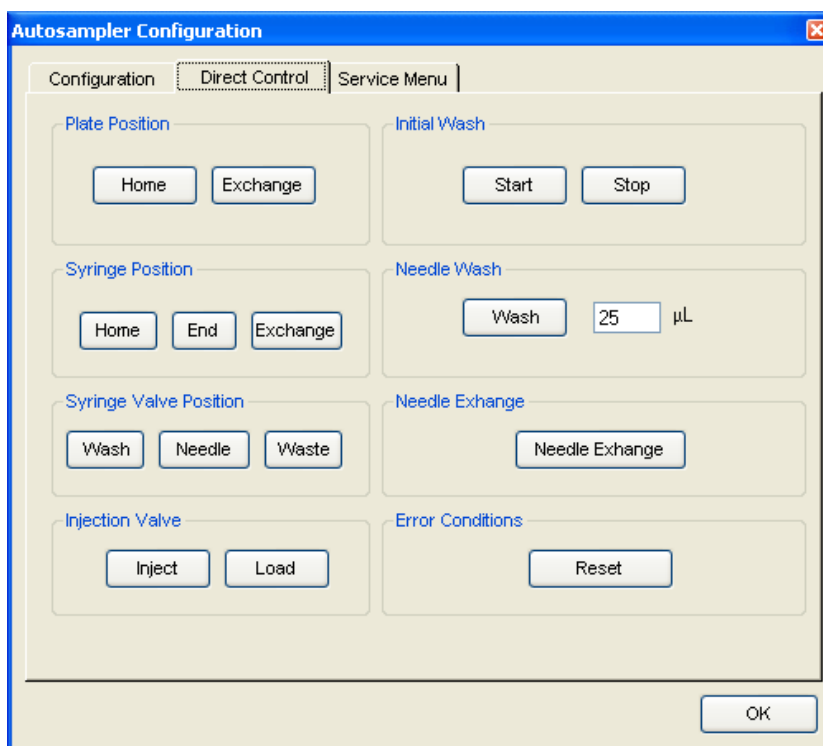

Figure 3-13 Autosampler Configuration Dialog—Direct Control Tab
15. Click the **Direct Control** tab (Figure 3-13) and click **Exchange** in the Plate Position area.